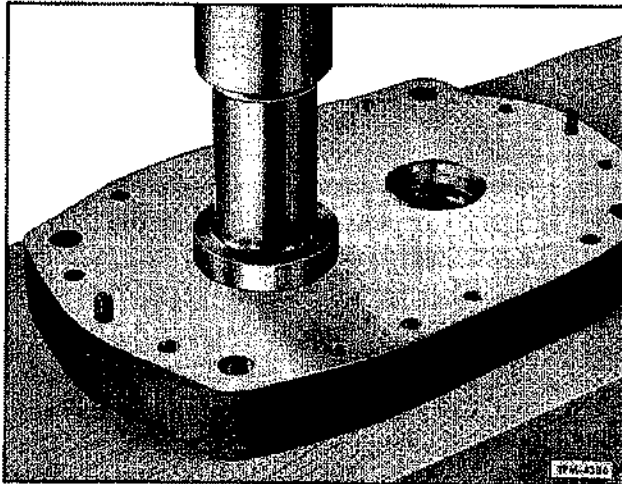

Figure 15—Installing Oil Seal Collar in End Plate
1. Support end plate on wood blocks in arbor press and using replacer tool J-6270-4 press seal collar (Fig. 15) into plate until tool bottoms against plate. Use of tool properly locates collar the required 0.002" to 0.008" below surface of plate. Taper, at inner diameter of collar, must be toward inside.